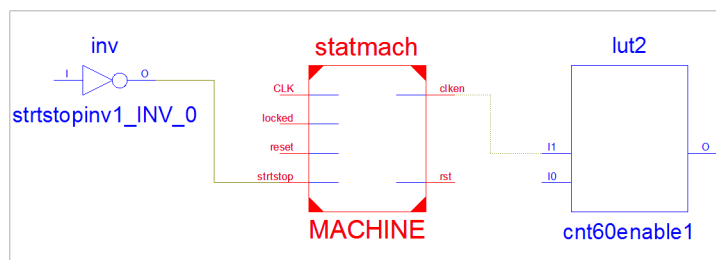

Figure 5-11: Hide Block Contents
2. Select the **MACHINE** block, and click the Hide Block Contents button to hide its entire contents as shown in Figure 5-11.